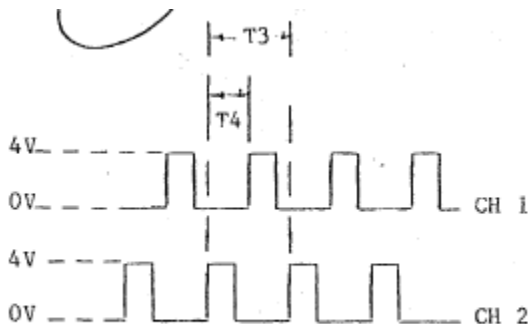

FIGURE 3
- 7.1.8** Set scope to Dual trace, chopped mode, CH1 and CH2 DC mode, 2V/Div, 0.2 Sec/CM, trigger CH1. Connect CH1 to scope 1 test jack. Connect CH2 to scope 2 test jack. Connect CH2(1) common lead only. Leave CH1(2) common lead floating. T4/T3 x 360 must be 180 +/-20 (See figure 3)